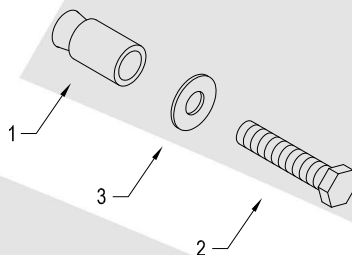

Figure 1
1. Remove contents from carton and examine for damaged or missing parts. See Figure 1.